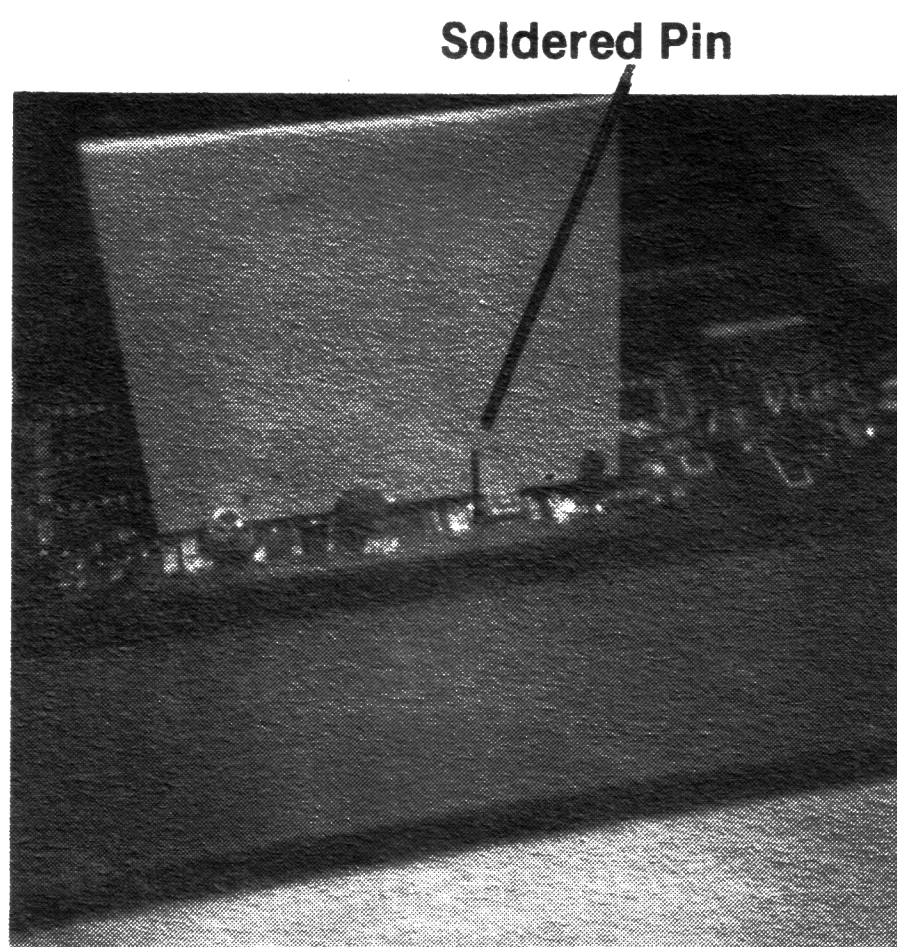
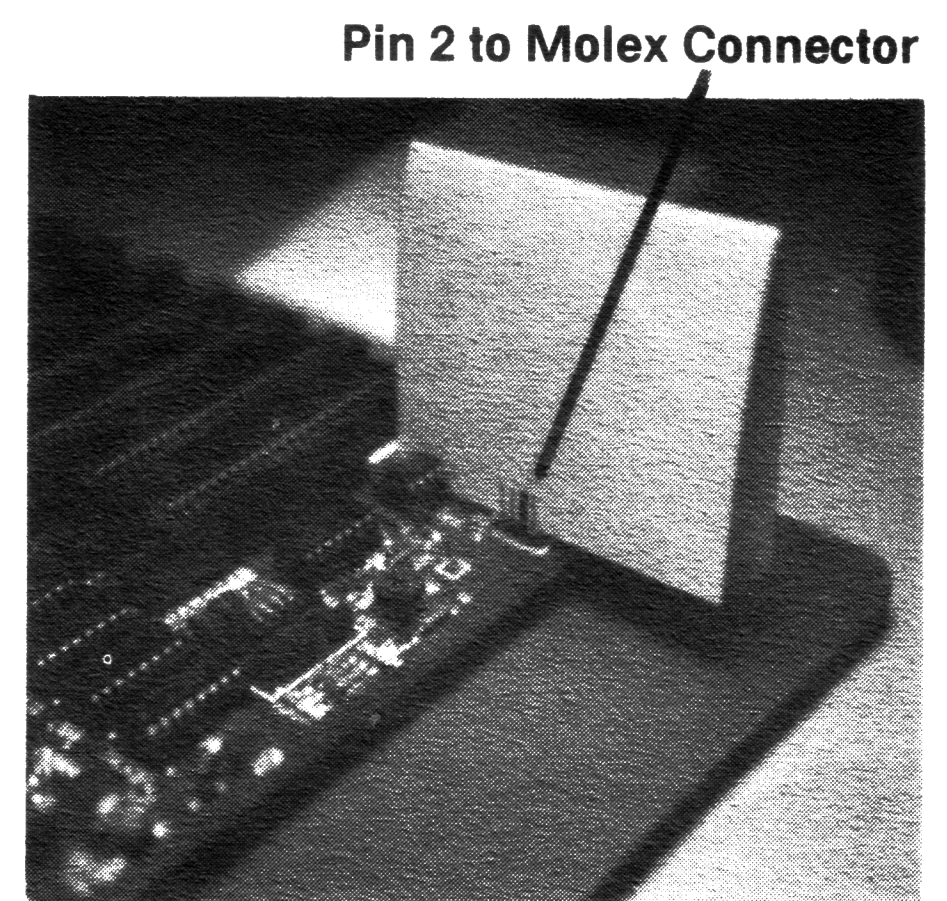

FIGURE 8
FIGURE 9
6. The DVM board utilizes existing Apple II video as the source of the Apple II text input. Apple II video is available at pin 2 of the Molex KK100 connector on the Apple II motherboard at position K-14. This connector is shown in Figure 9. The video signal available at this pin has a high level at 2.2 volts and a low level at .8 volts. These levels are at the limits of the TTL gate's threshold. In most circumstances the signal available at this pin is adequate for proper DVM operation. However, in some circumstances we have found that background noise will feed through the TTL gate's threshold at this point. This noise pickup has especially been true with the new shielded Apple II case. If results are not satisfactory, a permanent fix can be made. A socket pin is supplied with the DVM board for making the connection to the Apple II text source. Male pins are enclosed for your use in soldering takeoff points on an eighty character video board. A fourth male pin is provided for your use in establishing a pickup point for the Apple II text while still at TTL levels. If you are able to use the Molex pin, crimp the socket pin slightly so that a snug fit on the male pin results. If you have to use the TTL level text source, it will be necessary for you to solder a male pin onto the Apple II motherboard. The position of this pin is shown in Figure 8. The pin is soldered on the end of the 1.5K resistor located at J-14. This pin taps into the Apple II video output while it is still at TTL levels. This pin is the desired pickup point. However, the soldering of the pin requires some degree of skill.